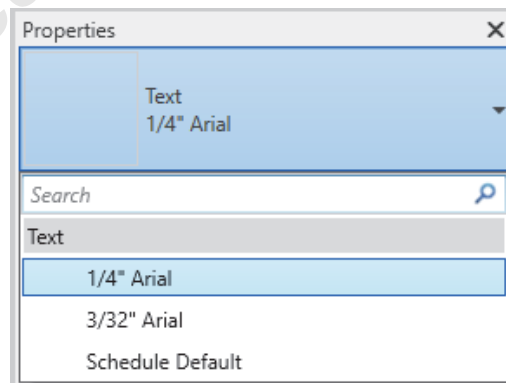

Figure 1–25
2. Expand the list in the Type Selector. Only a few text types are available, as shown in Figure 1–25.